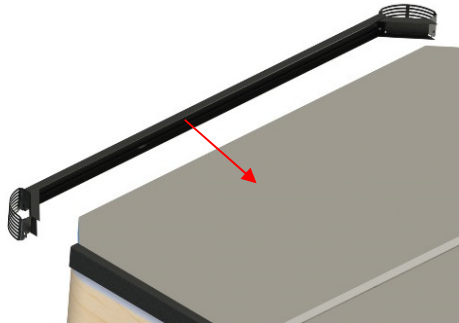
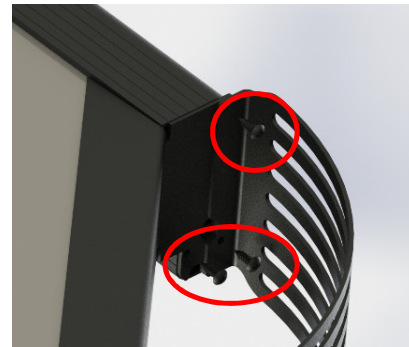

Figure 24
Figure 23
19. Put the end c-channel assembly back in place (Figure 23) and reinstall the three screws per corner bracket (Figure 24).